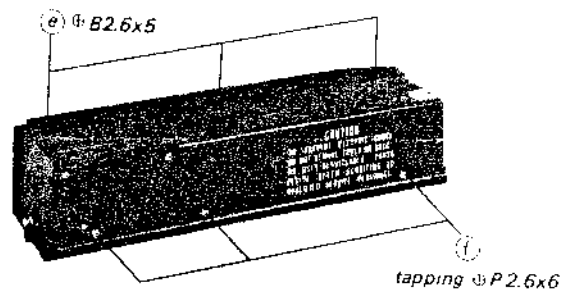

Fig. 11
- 1-1. Remove the six screws marked (e) and (f) in Fig. 11.